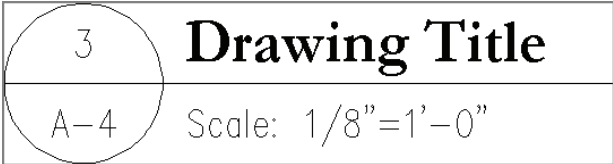

FIGURE 10.15 Edited text content and properties
4. Press Enter to update the selected object. Press Esc to deselect. Toggle off Quick Properties. Figure 10.15 shows the result.